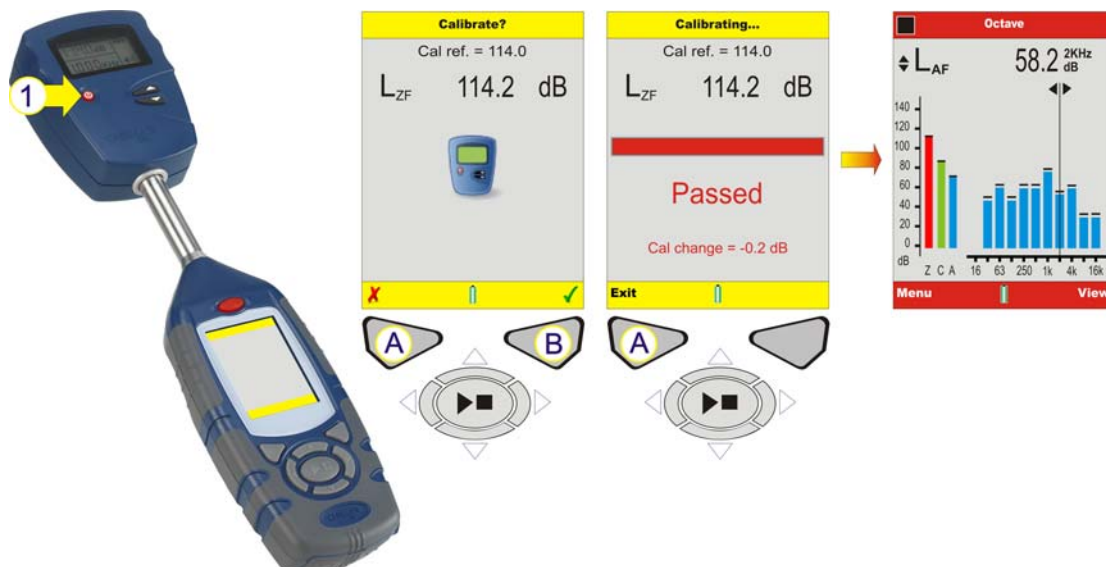

Figure 15 Instrument Calibration
K. INSTRUMENT CALIBRATION (Refer to Figure 15)